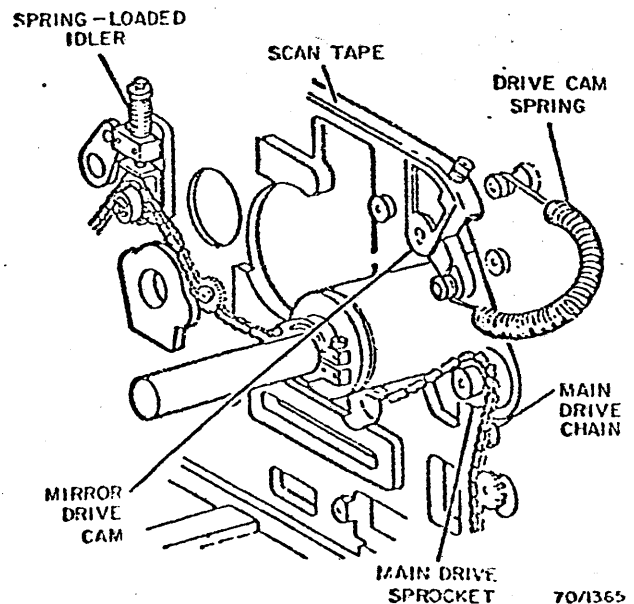

Fig. 3-3. Main Drive Motor and Gear Box Assembly in Operating Position
4. Disconnect the drive cam spring from the mirror drive cam (Fig. 3-3).